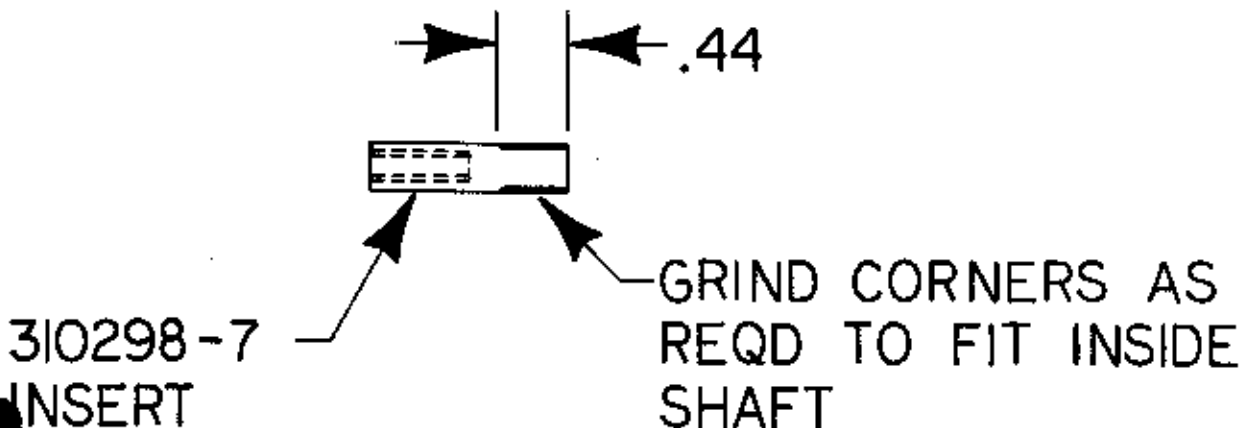

FIGURE 2
3. Grind corners on 310298-7 insert as required to fit inside handle shaft. See Figure 2.